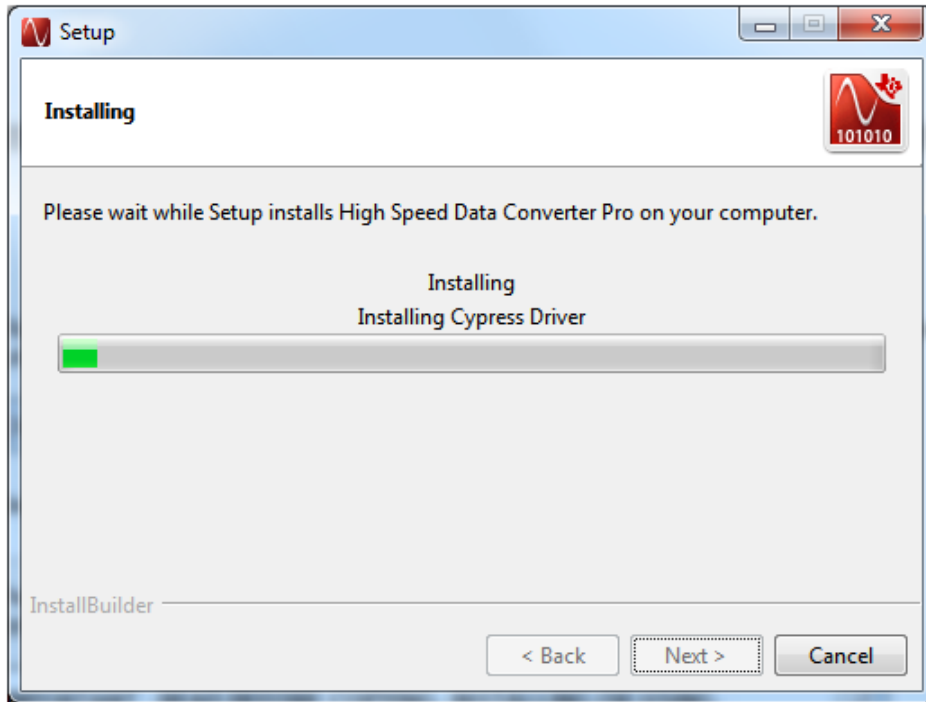

Figure 30. HSDCPro Install (Cypress Driver Install)
- The Cypress Driver begins installing as shown in Figure 30.